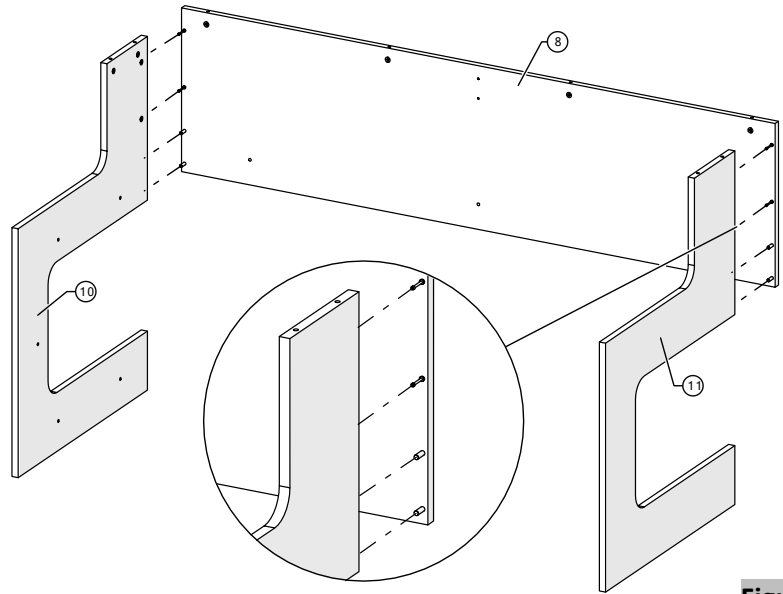

Figure 11
15. Connect the border-upper to border-gable LH and border-gable RH, and press tightly together by inserting the combi dowels and wooden dowels into the side holes of the border-gable LH and RH (Figure 11).